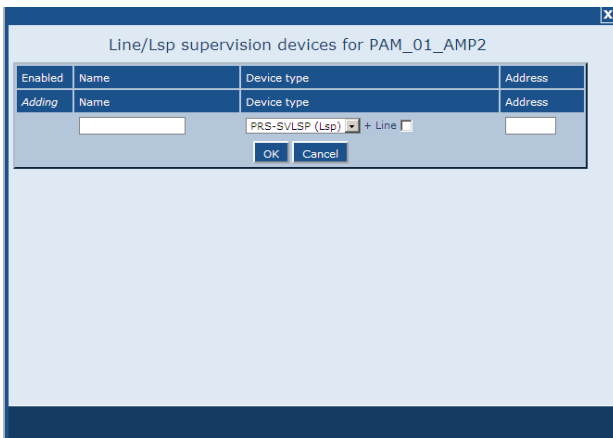

figure 43.16: Add supervision device, step 2
- 2 Click the *Add* button to add a new supervision device to the audio output. A screen similar to the one in figure 43.16 appears.